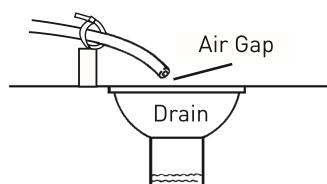

Figure 8 Drain Line Connection
**WARNING:** Never insert drain line directly into a drain, sewer line, or trap (Figure 8). Always allow an air gap between the drain line and the wastewater to prevent the possibility of sewage being back-siphoned into the conditioner.